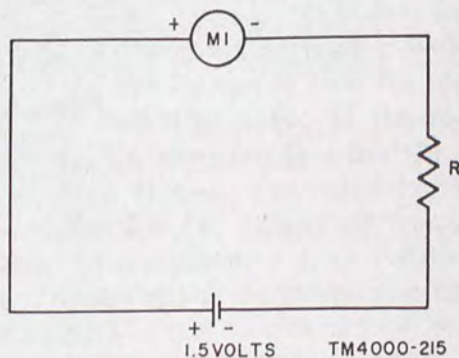
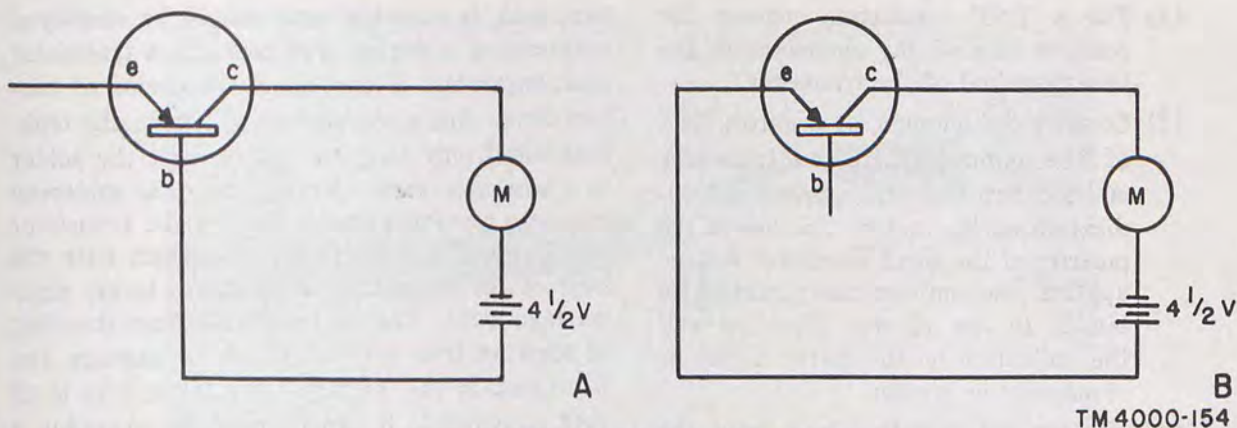
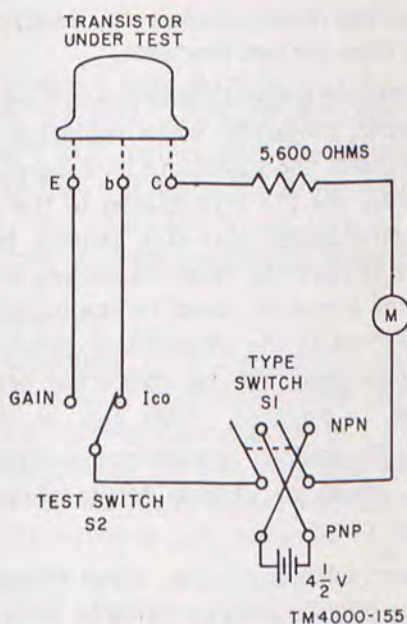

Figure 111. Meter test setup.
Figure 118. Testing transistor characteristics.
Figure 119. Field test circuit.
f. Indicating Meters. The indicating meters used in radiac sets are usually microammeters with 20 to 50 microampere (μ a) full-scale deflection. Because of the low permissible current, the continuity of these meters cannot be tested with an ohmmeter; the meter movement would be burned out. Refer to the circuit shown in figure 111. Find the value of resistor R by dividing 1.5 volts by $\frac{1}{2}$ the full-scale deflection current of the meter to be tested. For example, for a 20- μ a meter the value of $R = 1.5/10 \times 10^{-6} = 1.5 \times 10^5$ or 150,000 ohms. For a 50- μ a meter the value of R should be 60,000 ohms. When used in such a circuit, a good meter will
- (1) To obtain an indication of the I_{co} of a PNP transistor, connect the meter and battery to the collector-base circuit with the emitter circuit open (A, fig. 118). The meter will indicate the I_{co} which should be as stated in b(2) below.
- (2) To obtain an indication of the current gain of a PNP transistor, connect the battery and meter to the emitter-collector circuit with the base circuit open (B, fig. 118). The meter should indicate a current from 20 to 40 times greater than I_{co} obtained in (1) above.
- (3) To obtain these readings for NPN transistors, reconnect the battery so as to reverse its polarity in the circuit.
b. If parts listed below are available or obtainable, the circuit shown in figure 111 can be used to perform both tests outlined in a above plus the test used to determine the type of transistor outlined in paragraph 321a(3). After constructing the tester, label the switches and switch positions as shown in figure 119.
- (1) Set the meter to the 2.5 ma current scale. Set test switch, S2, to the I_{co} position and insert the transistor into the socket (or connect the transistor leads to the proper terminals as shown in (fig. 119)).
- (2) Set type switch, S1, to the position (NPN or PNP) that correspond to the type of transistor under test and note the reading on the meter. If the meter reading is above .250 ma (except for power transistors), the transistor is considered defective. If the meter indicates a current of less than .250 ma, set the meter to the 250 microampere current scale and note the